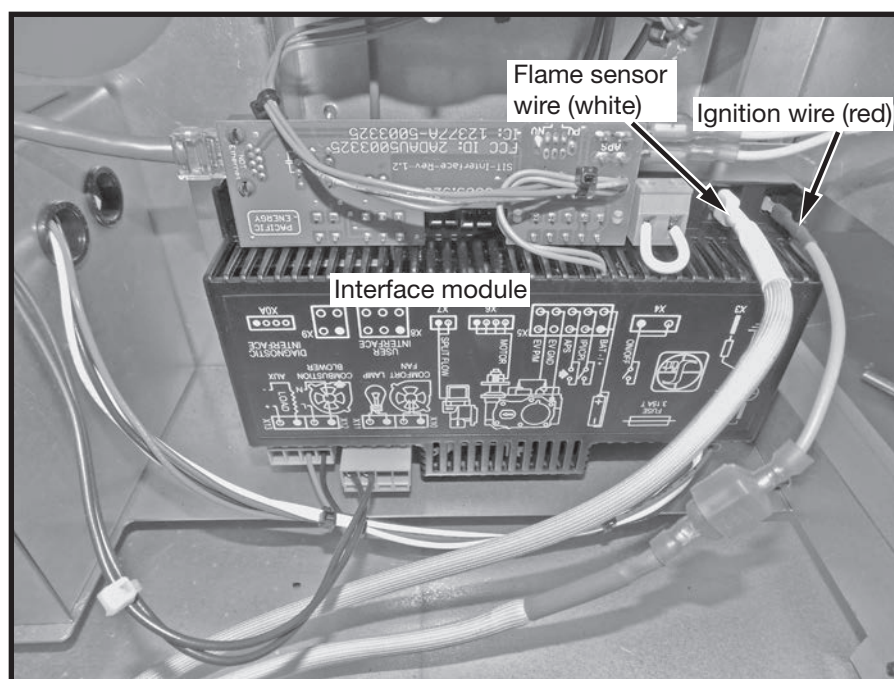

Figure 27: Disconnecting flame sensor and ignition wires at interface module.
5. Disconnect the flame sensor wire and the ignition wire from the interface module (Figure 27) and withdraw the wires back through the bulkhead plate and into the firebox area.